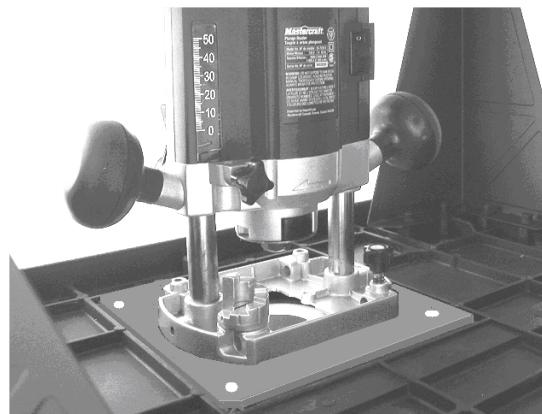
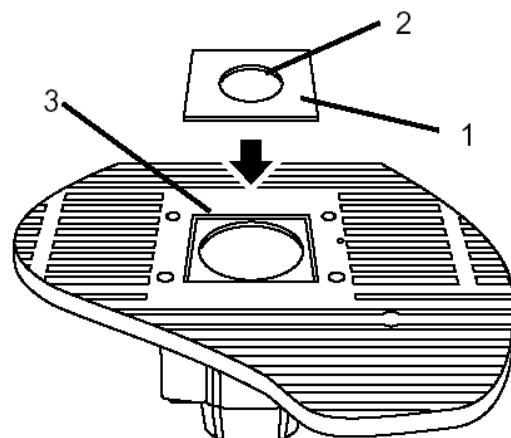

**Fig10**
**Fig 11**
**Attach the Router to the Table (Fig 10 ~ Fig13)**
**A) Direct Mount (Fig 10, Fig 11):**
Remove the plastic protective plate of your router (Fig 10).
Attach the router to the table by use of supplied screws and nuts (6, Fig 11).